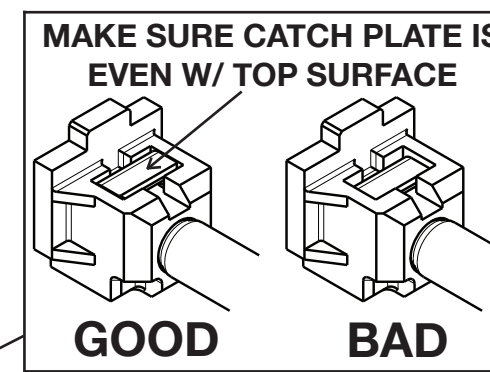

Figure 4
**Note:** Push in latch until catch plate is no longer depressed (Fig. 4)